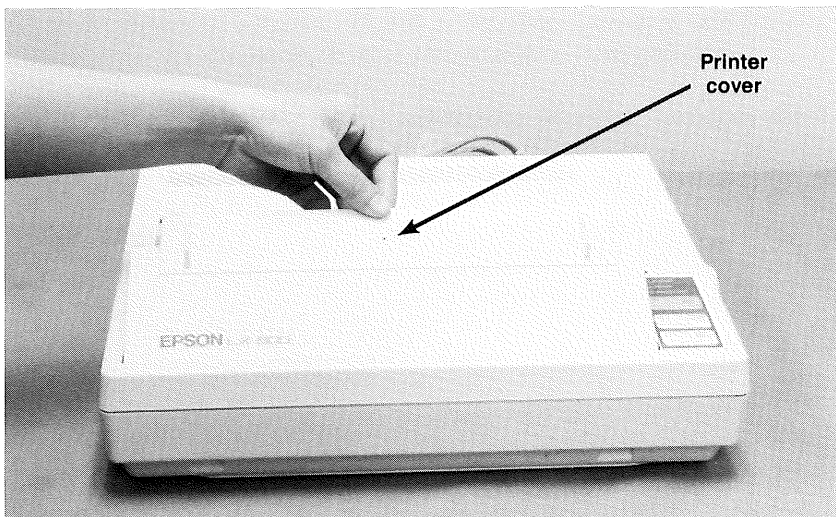

Figure 8.
15. Pull up on the back of the printer cover to release it from its locked position. Lift up to remove it. See Figure 8.